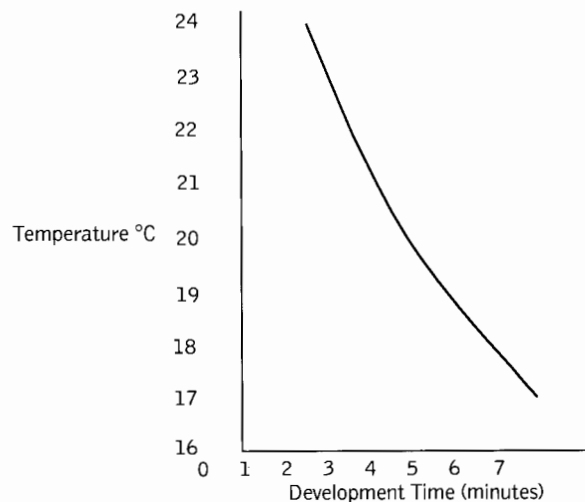

Fig 4-5. Time/Temperature Development Graph
- Use manufacturer's time/temperature adjustment graph when necessary (see Fig 4-5).